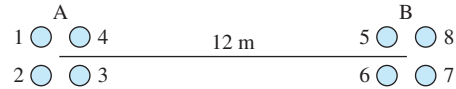

FIGURE P9.48 Single-phase, two-bundle asymmetrical transmission line.
- 9.48** (H)* A single-phase, 60-Hz transmission line is shown in Figure P9.48. Each subconductor's radius is 10 cm, and the distance between the subconductors is 2 m. $D_{12} = D_{23} = D_{34} = D_{41} = D_{56} = D_{67} = D_{78} = D_{85} = \dots$ (m)